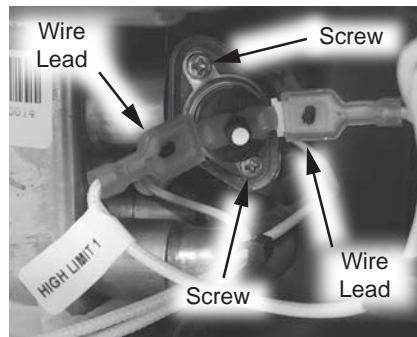

Figure 144 - Hi-Limit switch location
- 33 Locate the hi-limit switch on the primary heat exchanger (top right side of water heater). Disconnect the two wire leads from the hi-limit switch. See Figure 144.
- 34 Use a Phillips screwdriver to remove the two screws securing the hi-limit switch to the heat exchanger. Place screws aside in a safe place for reinstallation. See Figure 144.